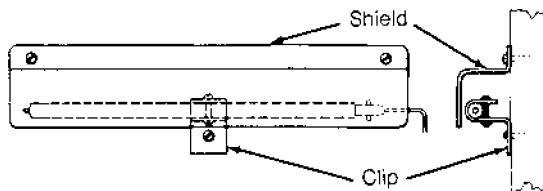

Figure-5 Outdoor Mounting with AT-211.
**Outdoor:** Install with AT-211 kit as shown in Figure-5.